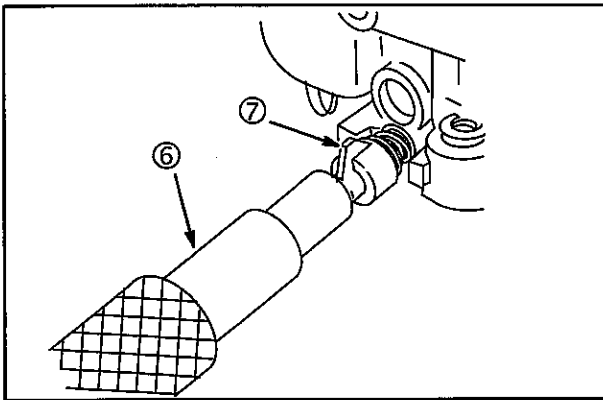

Fig. 17
- a. Position limiter cap (7) so that stop on limiter cap is at mid point between stops on carburetor body, **Fig. 17**.